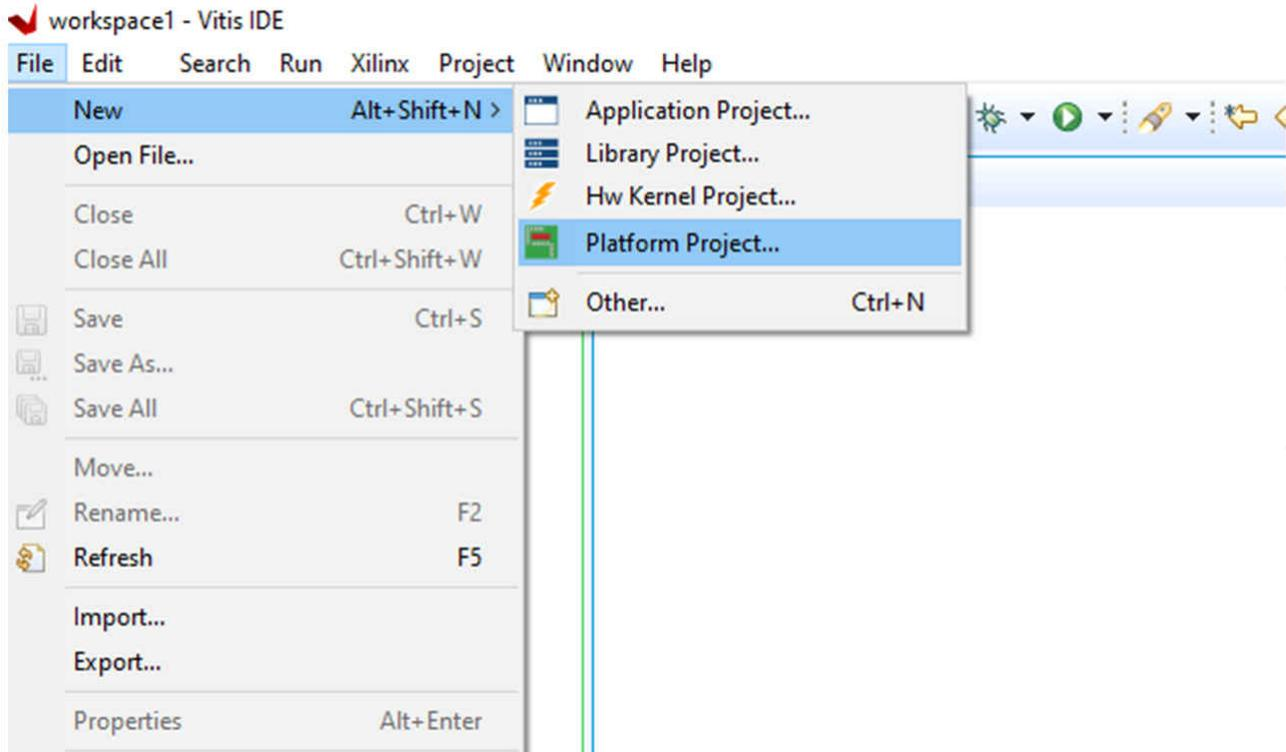

Figure 8-1. New Platform Project
1. Open the *File* menu, go to *New*, and then click *Platform Project* (see Figure 8-1).